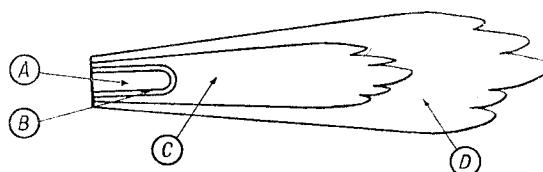

Fig. 1. The oxy-acetylene flame. A—Inner cone of unburnt gas. B—Luminous inner cone. C—Reducing zone—hottest point of flame. D—Outer zone
It may be quite definitely stated that if the brazing is to be carried out with ordinary "spelter" or brass—that is to say, copper-zinc alloy—then the oxy-acetylene flame is unsuitable. This is because of the difficulty of avoiding the heating of the melted brazing metal to such a high temperature that the zinc which it contains will actually "boil" and be driven off as a gas, leaving the joint porous and weak. Such spelters are only suitable for the lower temperature, diffused flames of the blow-lamp or air-gas blow-pipe. The operator must understand the nature of the oxy-acetylene flame, and the diagram Fig. 1, shows that it consists of an inner region containing unburnt gas which is enclosed in a highly luminous cone. This cone is surrounded by a region in which the hottest part of the flame occurs, just in front of the luminous cone. This region is, in turn, surrounded by the outer envelope of the flame in which the heat is not so fierce. For true autogenous welding, the hottest part of the flame is used, close to the luminous cone. It is possible, however, to use the much larger and more diffused outer envelope of the flame, moving it about over a comparatively wide radius, to raise a considerable area of the work to a temperature only sufficient for a lower-melting joint medium, such as silver-solder. I have even used the oxy-acetylene flame for soft-soldered joints in tender tanks, etc. I used the extreme tip of the outer envelope of a very small flame, and applied it to the back of the joints so that the solder and the flux were not directly heated by the flame. The oxy-acetylene flame can, therefore, be used in two ways: (1) to raise a small area to a very high temperature, using the inner region of the flame, with very little movement, which is the "welding"